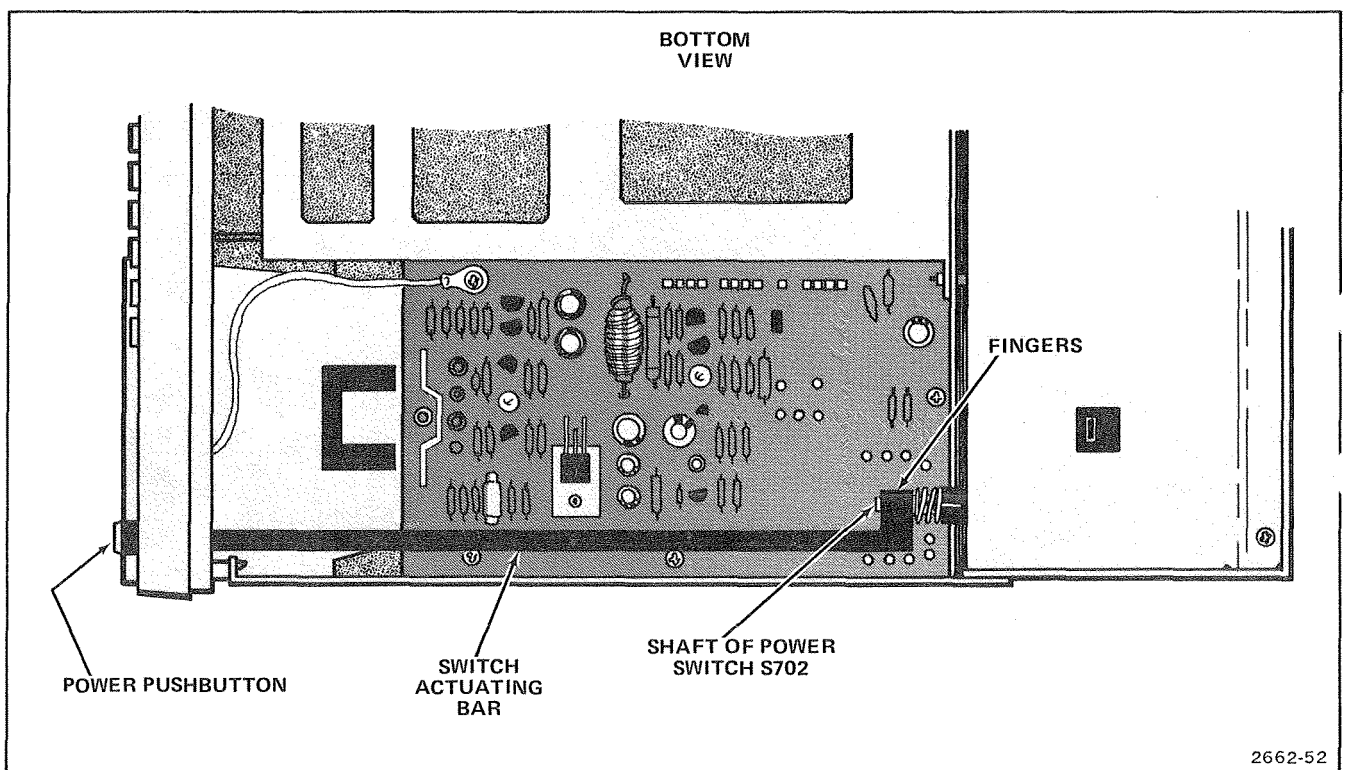

Figure 5-9. Power switch actuation linkage.
2. Disconnect the switch-actuating bar from the power switch by spreading the fingers that grip the switch shaft (see Figure 5-9).
5. Disconnect the switch actuating bar from the power switch by spreading the fingers that grip the switch shaft (see Figure 5-9).
2. Remove the two screws that fasten the side panel to the chassis. Figure 5-9 shows the screws.